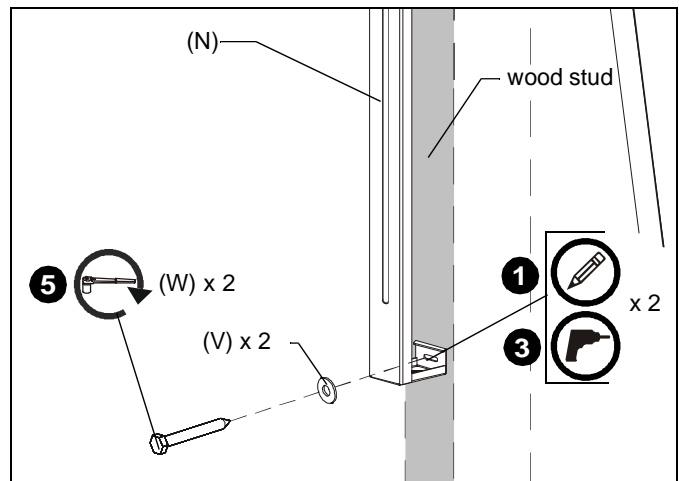

Figure 12
1. Mark the wall over wood stud through the adjustable leg (N) at the lower end of each upright assembly. (See Figure 12)
3. Drill one 1/8" pilot hole in wood stud. (See Figure 12)
5. Use one 1/4-20 x 2-1/2" lag bolt (W) and one 1/4" flat washer (V) to attach adjustable leg (N) to wall. (See Figure 12)